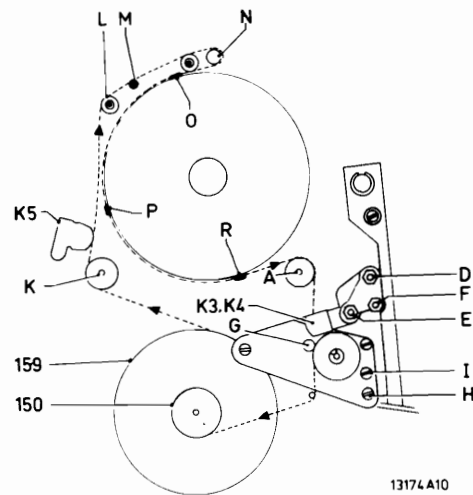

Fig. III-17
2.2.9. Check the stop force of the lower drum in threaded-in condition. It must be 1 kg and is measured at pin N (Fig. III-17) in threaded-in condition.
a. Cassette roller spindles A and K (see Fig. III-17)
c. Capstan G (Fig. III-17)
- Adjustments can be made by turning nut E in or out (see Fig. III-17).
- Adjustments can be made by turning nut F in or out (see Fig. III-17).